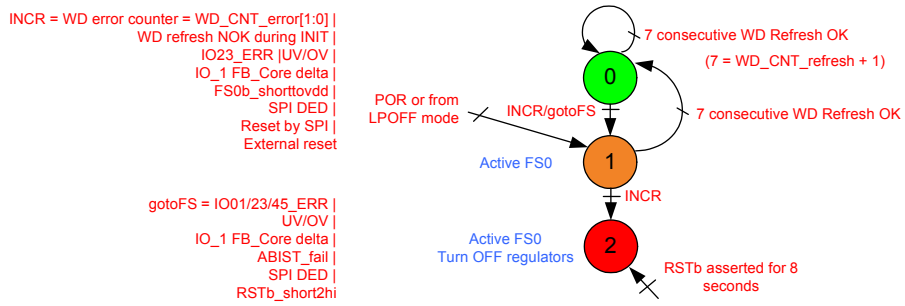

Figure 20. RSTB error counter (RSTb\_err\_FS = 1)
- RSTB\_err\_FS = 1 / Intermediate = 1; Final = 2 (Figure 20). When reset error counter reaches 2, the device goes into deep reset and fails.